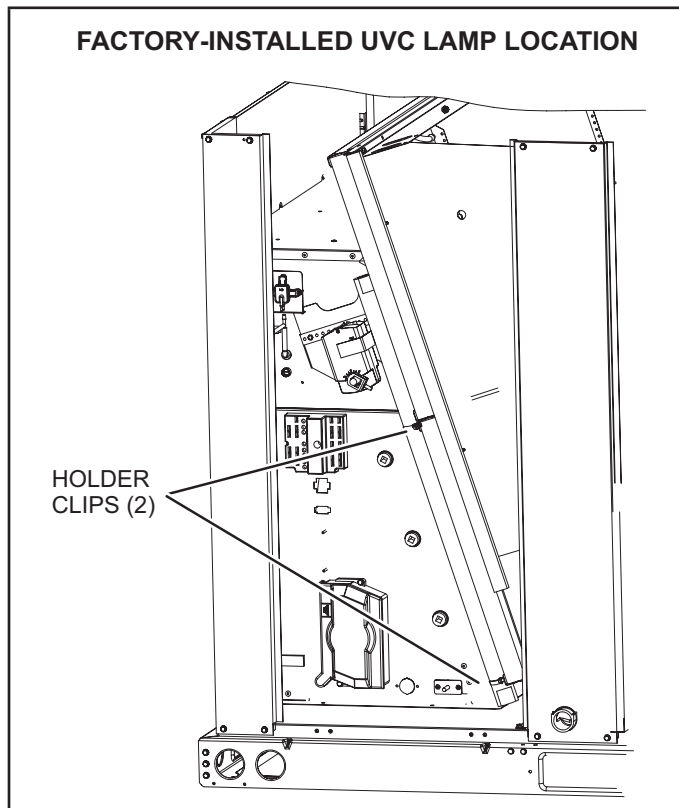

FIGURE 41
- 1 - Cut wire ties and remove the UVC lamp attached to the filter rack. See FIGURE 41.